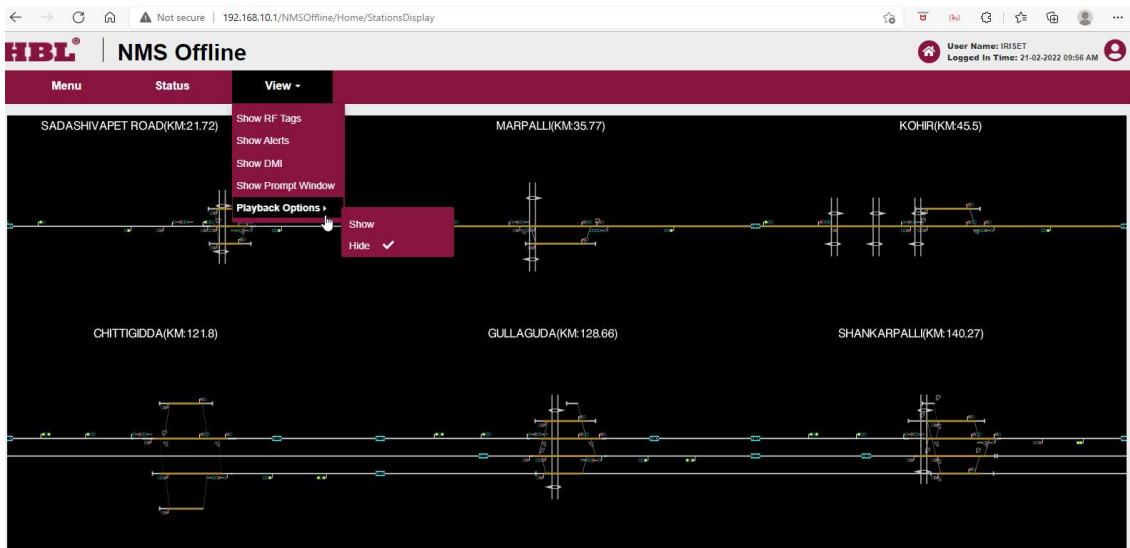

Fig 8. Selection of Playback option
1. After NMS offline screen is available then using view button NMS playback option is selected to shown , by default it is selected to hide as shown in fig 8 below .